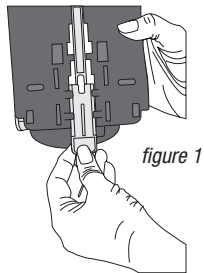

figure 1
1. To open the dispenser cover, insert key into slots between wall and back plate at the bottom of the dispenser (see figure 1).